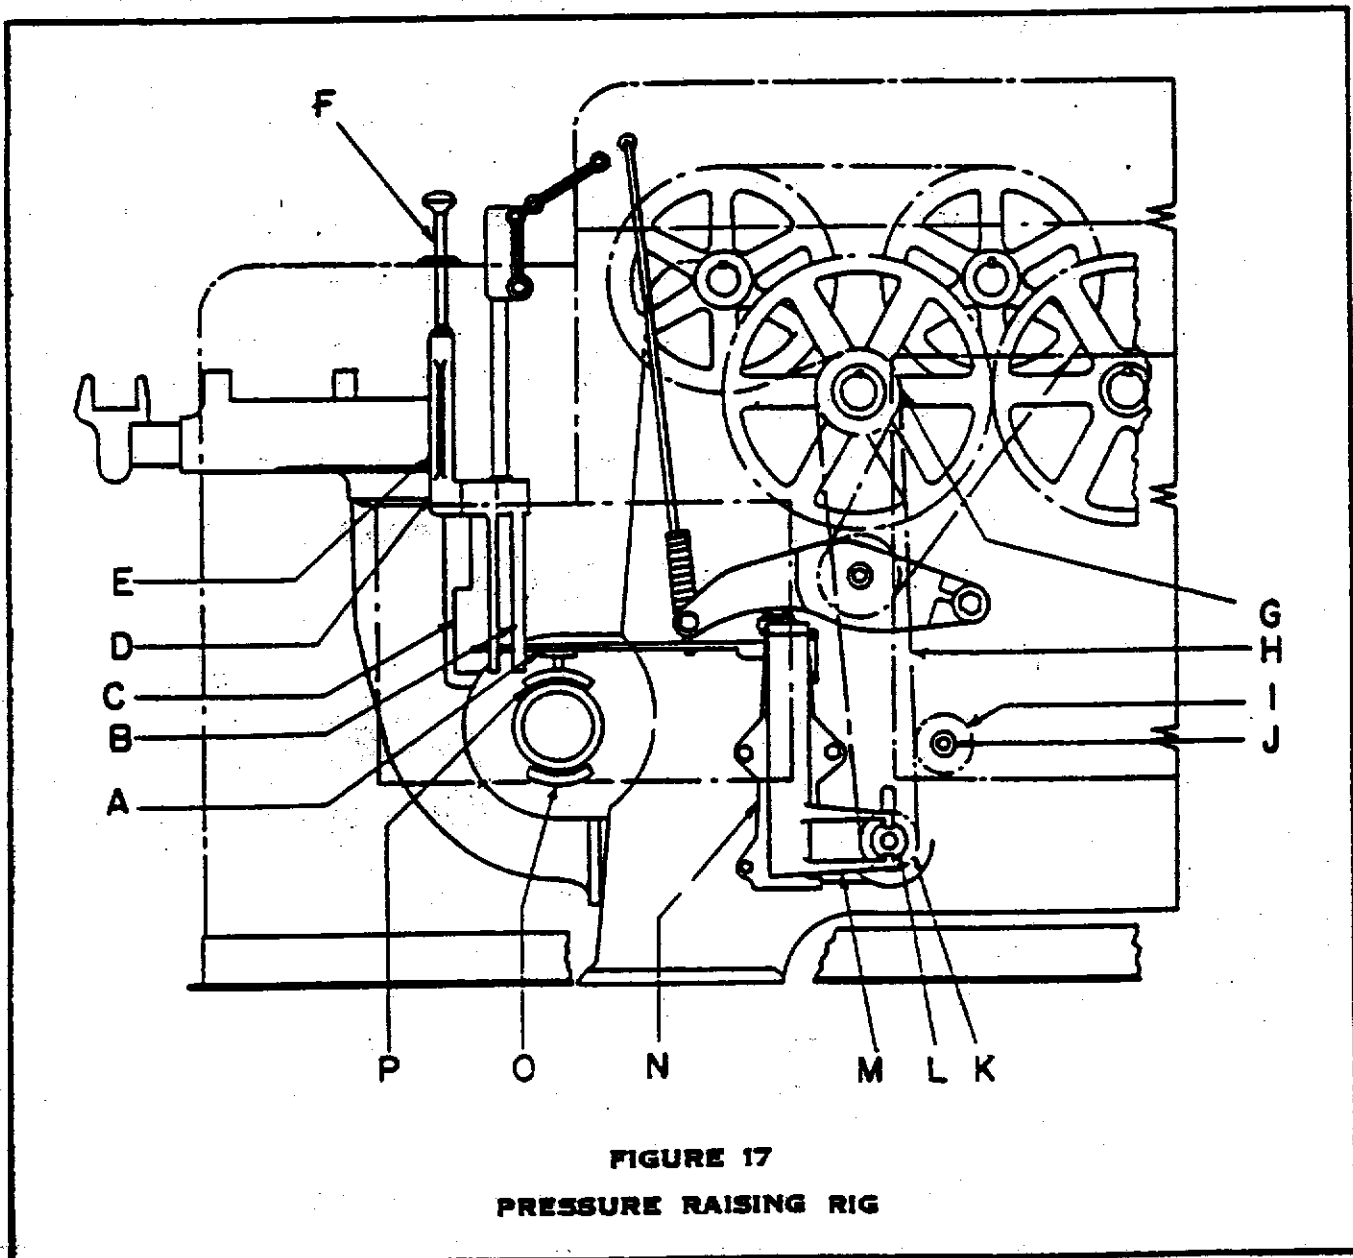

FIGURE 17
R. PRESSURE RAISING RIG - (Refer to Figure 17, opposite page) - Assemble pressure raising rig as follows: